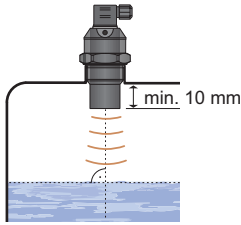

Fig. 1: Correct installation of the sensor, perpendicular to the liquid surface
- The device is installed in a vertical position into the upper lid of the tank or reservoir using a lug, a fastening nut or a flange in such a way that the axis of the device is perpendicular to the surface level of the measured liquid (Fig. 1). Tightening of the level meter in the welding flange (or. by the fixing nut) **must be done only by hand** *. The device shall be installed in places with no risk of **mechanical damage to the front of the sensor**.